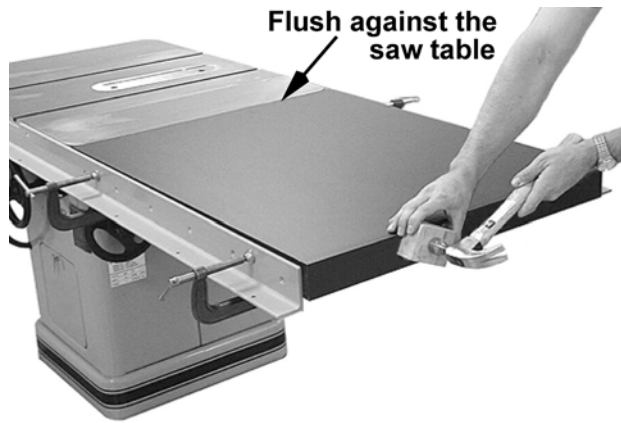
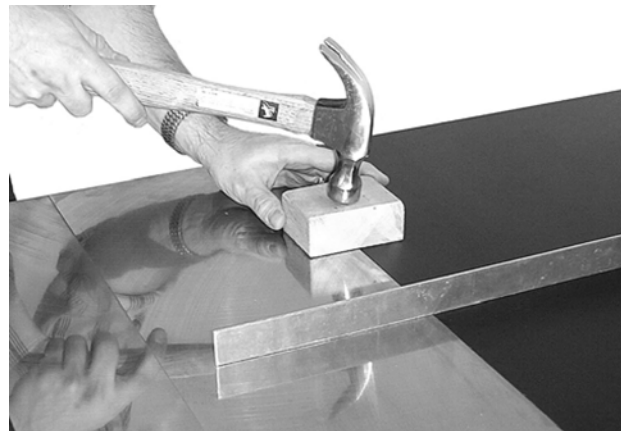

Figure 7
Figure 8
1. Place the extension table between the rails and up against the saw table, leaving the extension table raised just slightly above the saw table. Clamp the extension table to the front and back rails as shown in Figure 7. Clamping pressure should be enough to secure the table yet allow minor adjustments.
2. Use a hammer and block of wood (or a rubber mallet) to tap the extension table up flush against the cast iron saw table (Figure 7). Then tap down the extension table at various points along its edge where it meets the saw table, until it is level with the saw table (Figure 8). As one part of the edge becomes level with the table, tighten the clamp on that side. Then move to the other side and repeat, until the full length of the edge is level with the saw table. Lay a straight edge across both extension table and saw table to ensure proper leveling.